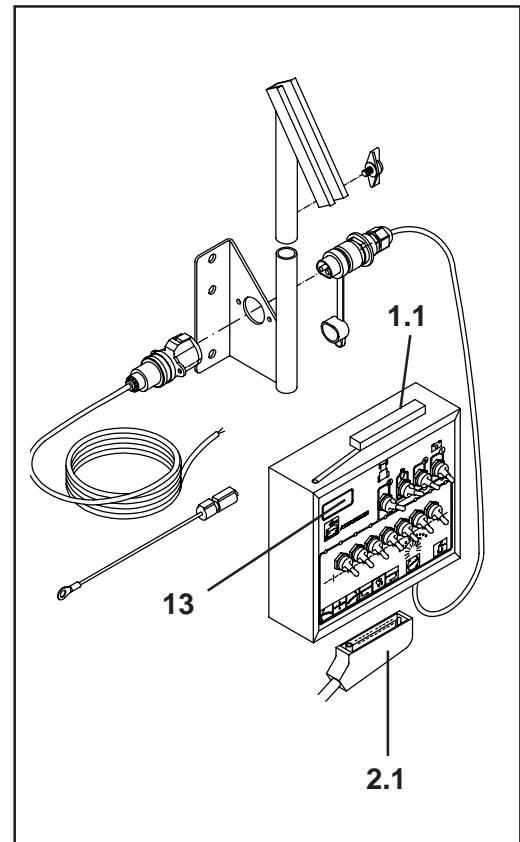

Fig. 8.5
- Digital pressure display (optional equipment only SKS 50 resp. SKS 70) (Fig. 8.5).
- Connect implement cable (Fig. 8.5/2.1) to switch box (Fig. 8.5/1.1) (only switch box SKS 50 and 70).